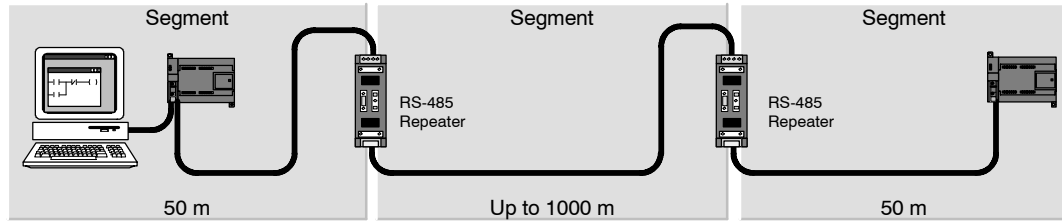

Figure 7-18 Sample Network with Repeater
- To increase the length of a network:* Adding a repeater to your network allows you to extend the network another 50 m. If you connect two repeaters with no other nodes in between (as shown in Figure 7-18), you can extend the network to the maximum cable length for the baud rate. You can use up to 9 repeaters in series on a network, but the total length of the network must not exceed 9600 m.